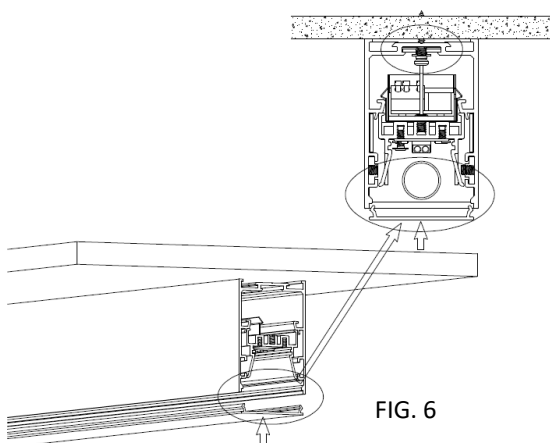

FIG. 6
- Line up the diffuser / cover to the edge of the fitting, press all along the full length to secure. (Fig. 6)